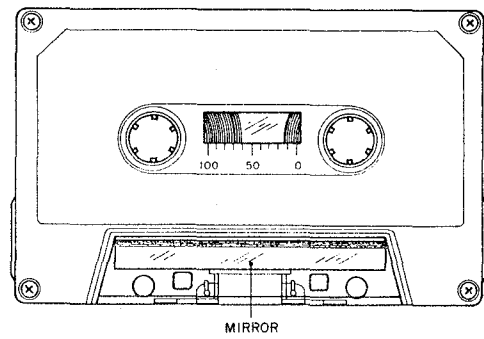

Fig. 18
- 1) When using an ordinary cassette, the tape guides and heads, etc. are not visible. As shown in Fig. 18 use a cassette tape from which part of the cassette case has been cut out and a mirror installed easy visibility of the head area when making tape guide height adjustment.
- 2) Adjust tape guides (B) and (C) taking tape guides (A) and (D) as the standard heights. Carry out height adjustment of tape guide (C) in the forward mode and tape guide (D) in the reverse mode, making the tape run smooth in either mode without catching the tape guides.
- 3) Normally, adjustment should not be carried out for tape guides (A) and (D) serving at the same time as an erase head.